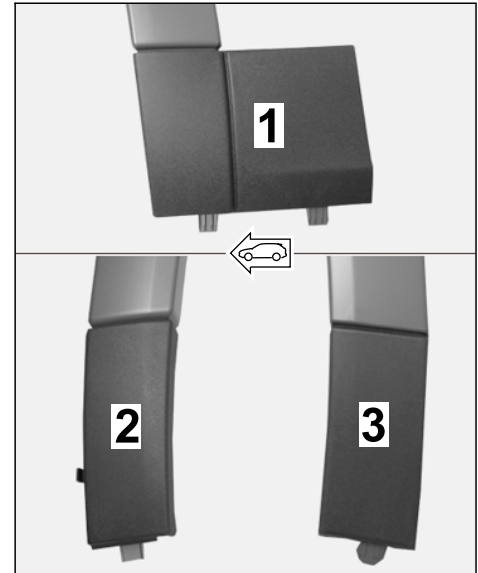

Figure 3
1.1.1 Mask trims (black grained ⇒ *Figure 3*) on wheel covers.